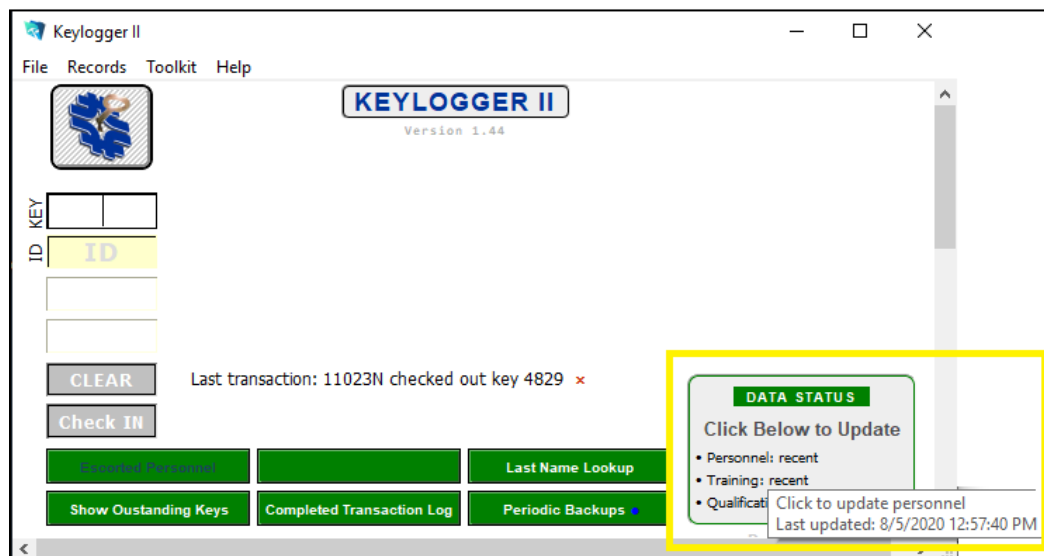
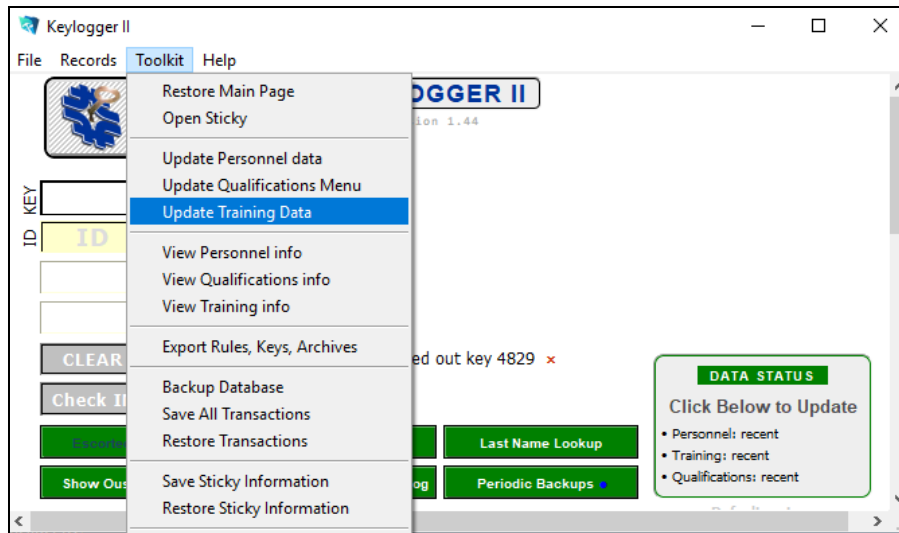

Figure 2
Figure 3
1. Click in the grey box marked "DATA STATUS" (Figure 2) or click the "Toolkit" menu and select "Update Training Data" (Figure 3).